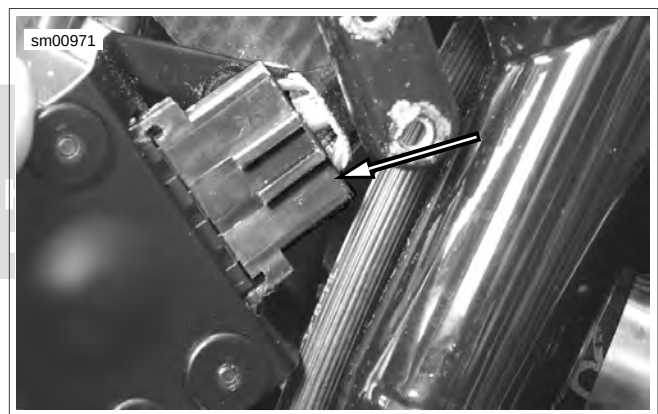

Figure 7-15. Ignition Switch Connector (switch turned over showing back side)
4. See Figure 7-15. Carefully release latching tabs securing wiring harness connector [33] to back of ignition switch. Pull connector out of ignition/light switch socket.